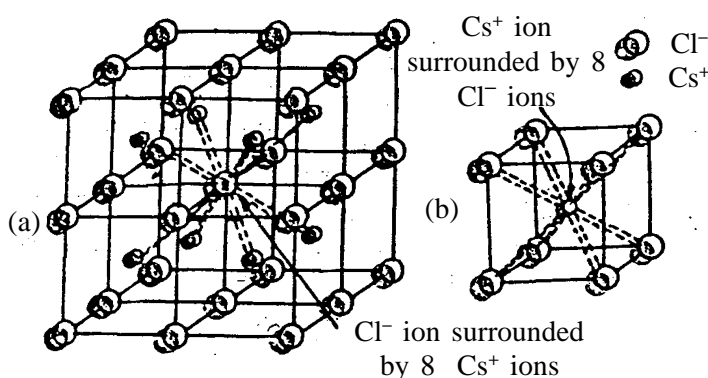

Fig. 1.18 Representation of CsCl structure.
- In this structure, each Cs^+ ion is surrounded by 8 Cl^- ions which are disposed towards the corners of a cube. (see the fig. 1.18) When the unit cell is extended, it can be seen that each Cl^- ion is also surrounded by 8 Cs^+ ions.